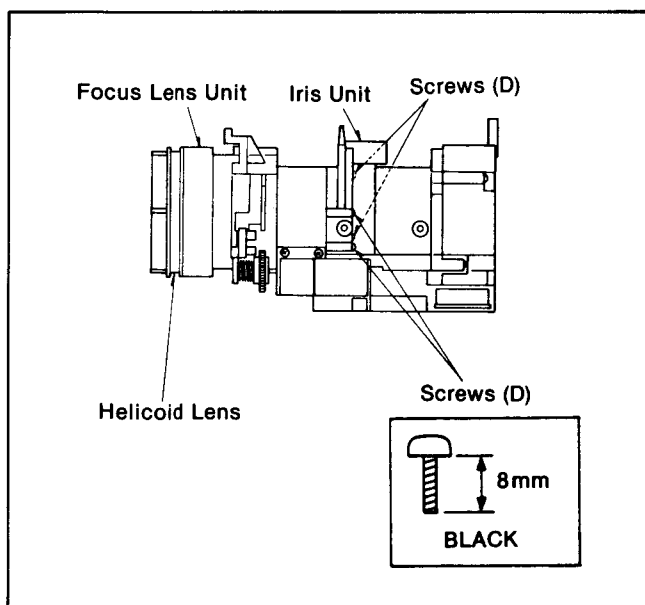
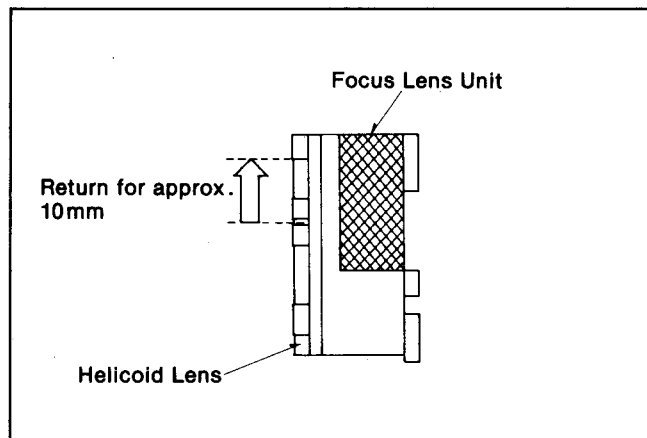

Fig.M3
Fig. M5
- (8). Unscrew the four screws (D) and remove the focus lens unit with iris unit as shown in Fig.M3.
- (9). Remove the iris unit from focus lens unit and replace the focus lens unit.
- (10). After replacing the focus lens unit, install the iris unit to focus lens unit.
- (11). Install the focus lens unit with iris unit and then tighten the four screws (D) as shown in Fig. M3.
- (12). Adjust the helicoid lens position as follows.
- a. Turn the helicoid lens to fully clockwise and return it for approx. 10mm (so that next installation become easy) as shown in Fig.M5.